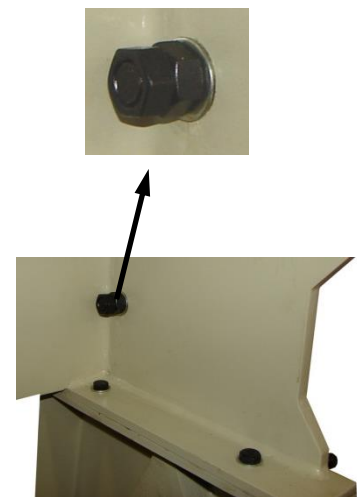

figure 11
6. Loosen the nut 1/4 turn and add a second M16 nut as a jam nut. (See fig.11) The bending leaf must be able to pivot freely with the nuts tight.